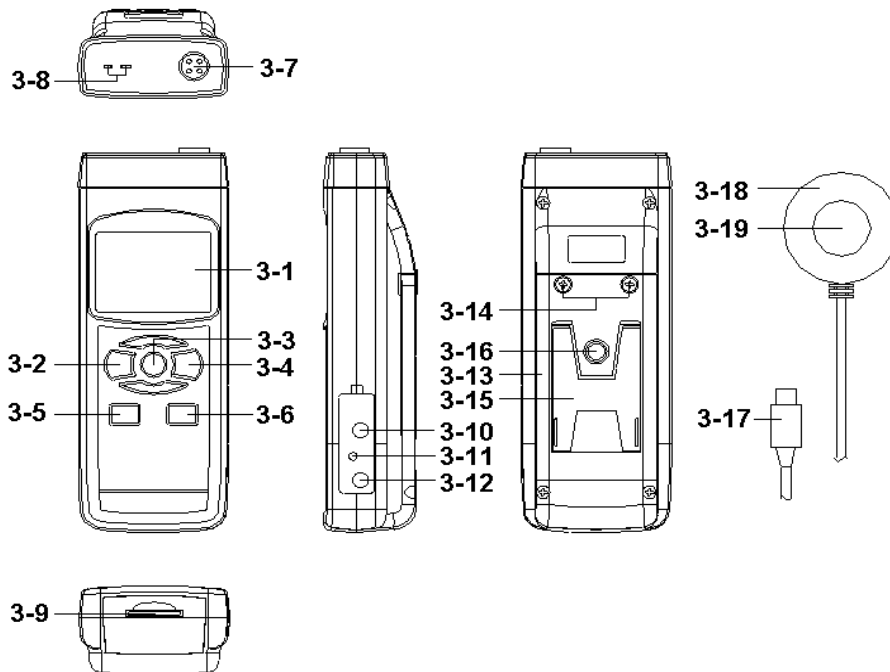

Fig. 1
1) Turn on the meter by pressing the " Power Button " ( 3-2, Fig. 1 ) momentarily.
*\* Pressing the " Power Button " ( 3-2, Fig. 1 ) continuously and > 2 seconds again will turn off the meter.*
Pressing the " Function Button " ( 3-3, Fig. 1 ) continuously ( not release the button ), the Display will show the following text in sequence :
Until the Display show the desired mode ( Function ), just release the " Function Button " ( 3-3, Fig. 1 ), the meter will execute this function with default.
- b. Install the " UVC Probe Plug " ( 3-17, Fig. 1 ) into the " Probe Input Socket " ( 3-7, Fig. 1 ).
- c. Power on the meter by pressing the " Power Button " ( 3-2, Fig. 1 ). The display will show the " mW/cm2 " unit. Now the meter is ready for making the UVC light measurement.
- d. Use the fingers to hold the " UVC Sensor body " ( 3-18 ), face the " UVC Sensor " ( 3-19, Fig. 1 ) against to the measurement UVC light source directly. The display will show the UVC light measurement value.
***During the UVC measurement, if blank the UVC Sensor ( 3-19, Fig. 1 ) , the Display not show zero value, press the " Zero Button, Logger Button " ( 3-6, Fig. 1 ) > 3 seconds, Display will show zero value.***
- b. Not install the " Probe Plug " ( 3-17, Fig. 1 ) into the " Probe Input Socket " ( 3-7, Fig. 1 ).
- c. Plug the Thermocouple Temp. Probe ( Type K Temp. probe or Type J Temp. probe, optional ) into " Type K/J Probe Input Socket " ( 3-8, Fig. 1 )
During the measurement, press the " Hold Button " ( 3-3, Fig. 1 ) once will hold the measured value & the LCD will display a " HOLD " symbol.
- 1) The data record function records the maximum and minimum readings. Press the " REC Button " ( 3-4, Fig. 1 ) once to start the Data Record function and there will be a " REC. " symbol on the display.
- a) Press the " REC Button " ( 3-4, Fig. 1 ) once, the " REC. MAX. " symbol along with the maximum value will appear on the display.
If intend to delete the maximum value, just press the " Hold Button " ( 3-3, Fig. 1 ) once, then the display will show the " REC. " symbol only & execute the memory function continuously.
- b) Press the " REC Button " ( 3-4, Fig. 1 ) again, the " REC. MIN. " symbol along with the minimum value will appear on the display.
If intend to delete the minimum value, just press the " Hold Button " ( 3-3, Fig. 1 ) once, then the display will show the " REC. " symbol only & execute the memory function continuously.
After power ON, the " LCD Backlight " will light automatically. During the measurement, press the " Backlight Button " ( 3-2, Fig. 1 ) once will turn OFF the " LCD Backlight ".
Prepare a " SD memory card " ( 1 G to 16 G, optional ), insert the SD card into the " SD card socket " ( 3-9, Fig. 1). The front panel of the SD card should face against the the down case.
Press the " REC Button ( 3-4, Fig. 1 ) once , the LCD will show the text " REC ", then press the " Logger Button " ( 3-6, Fig. 1 ), the " REC " will flashing, at the same time the measuring data along the time information will be saved into the memory circuit.
During execute the Datalogger function , if press the " Logger Button " ( 3-6, Fig. 1 ) once will pause the Datalogger function ( stop to save the measuring data into the memory circuit temporally ). In the same time the text of " REC " will stop flashing.
*If press the " Logger Button " ( 3-6, Fig. 1 ) once again will execute the Datalogger again, the text of " REC " will flashing .*
During pause the Datalogger, press the " REC Button " ( 3-4, Fig. 1) continuously at least two seconds, the " REC " indication will be disappeared and finish the Datalogger.
Press the " REC Button ( 3-4, Fig. 1 ) once , the LCD will show the text " REC ", then press the " Logger Button " ( 3-6, Fig. 1 ) once, the " REC " will flashing once and Beeper will sound once, at the same time the measuring data along the time information will be saved into the memory circuit. The lower Display will show the Position ( Location ) no. and saved into the SD card too.
*During execute the Manual Datalogger, press the " ▼ Button " ( 3-5, Fig, 1 ) the lower no. ( position no. ) will flashing. It can use the " ▲ Button " ( 3-6, Fig. 1 ) or " ▼ Button " ( 3-5, Fig. 1 ) to set the measuring position ( 1 to 99, for example room 1 to room 99 ) to identify the measurement location , the lower Display will show P x ( x = 1 to 99 ). After the position no. is selected, t press the " Enter Button " ( 3-4, Fig. 1 ) to confirm.*
Press the " REC Button " ( 3-4, Fig. 1) continuously at least two seconds, the " REC " indication will be disappeared and finish the Datalogger.
During the normal measurement ( not execute the Datalogger ), If press " Time check Button " ( 3-5, Fig. 1 ) once , the lower LCD display will present the time information of Year, Month/Date, Hour/Minute
During the normal measurement ( not execute the Datalogger ), If press " Sampling Button " ( 3-6, Fig. 1 ) once , the lower LCD display will present the Sampling time information in second unit.